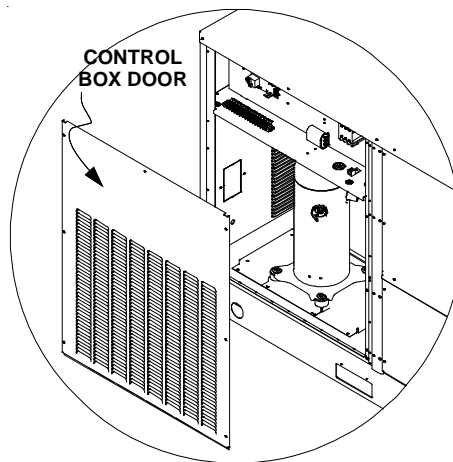
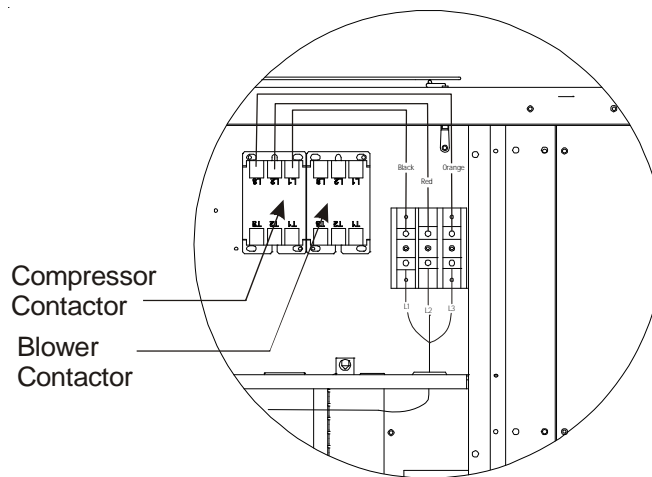

Figure 1
Figure 3
2. Remove control box door (Figure 1). **NOTE:** Remove power wiring from the compressor contactor (see Figure 3).
6. Attach the other end of the wire into the single point block with L1, L2, and L3 being the three lugs from left to right (Figure 3). You may use any of the four available connection points within each lug. **NOTE:** Connect any additional loads to the unused positions.